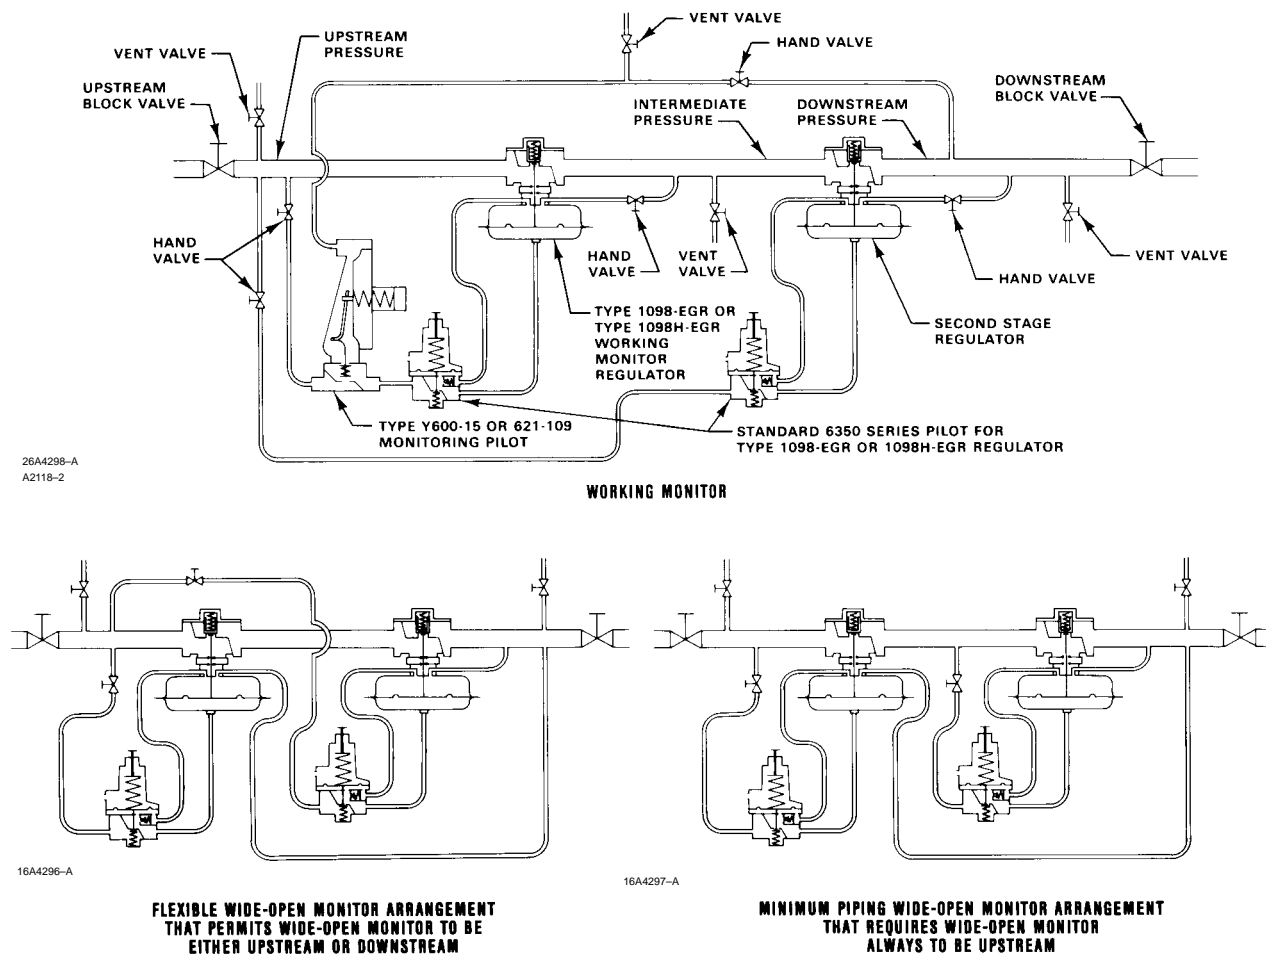

Figure 6. Monitoring Systems
Monitoring regulators serve as overpressure protection devices to limit system pressure in the event of open failure of a working regulator feeding the system. Two methods of using Type 1098-EGR or 1098H-EGR regulators in monitoring systems are as follows (figure 6):
- Wide-Open Monitor**—Either the upstream or downstream regulator can be the monitoring regulator as shown in figure 6. During normal operation, the monitoring regulator is standing wide open with the reduction to distribution pressure being taken across the working regulator. Only in case of open failure of the working regulator does the wide-open monitoring regulator take control at its slightly higher setting.